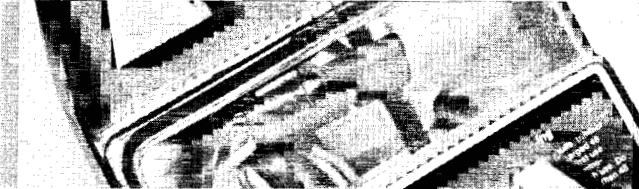

Figure 5.11
5.11 SECURE UPPER TO LOWER HARNESS CONNECTION (fig. 5.11)